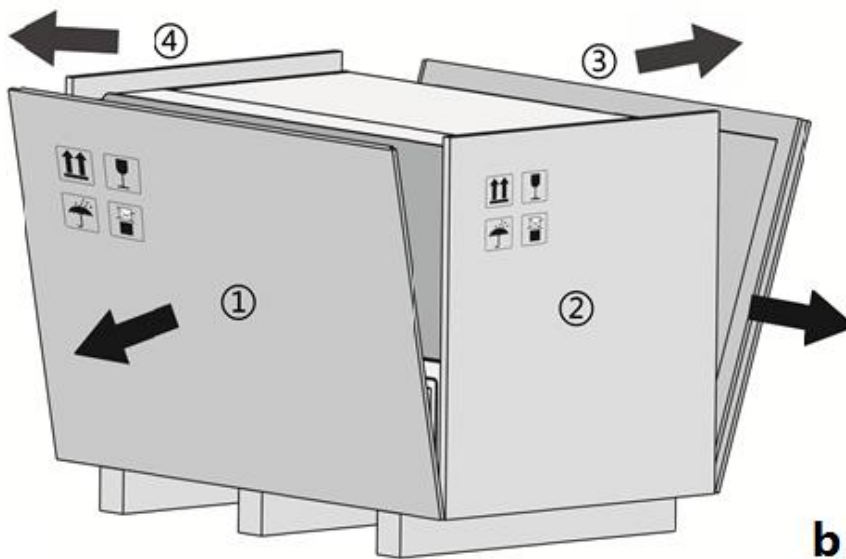

Figure 2-2b. Wooden Case Unpacking Step 2
**2nd Step:** Then disassemble the four side plates, as shown in figure 2-2b.